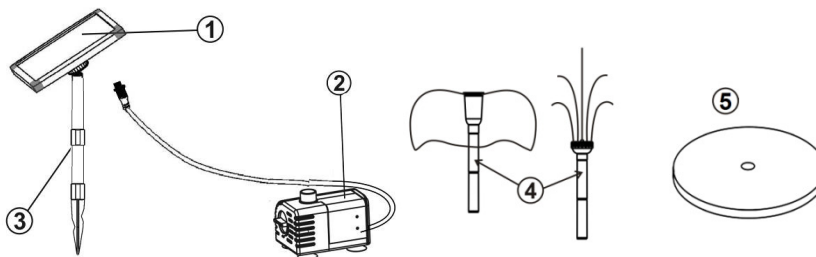

Figure 2
- 2) Connect the solar panel and the pump, as shown in Figure 2 above, and then tighten the connection nut. Install the solar panel in a sunny place on the ground spikes, adjust the angle to face the solar panel toward the sun.